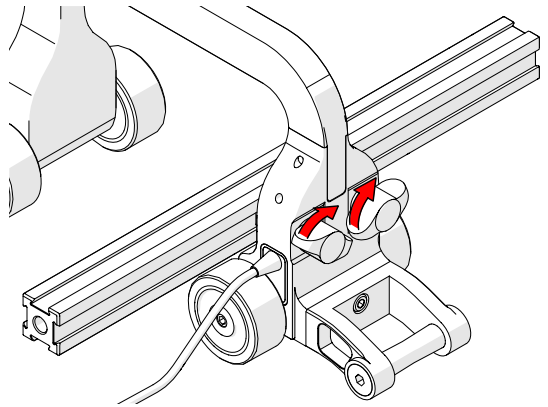

Fig. 22 - Tighten wing knobs
3. Position the frame bar where required and tighten the black wing knobs (Fig. 22).